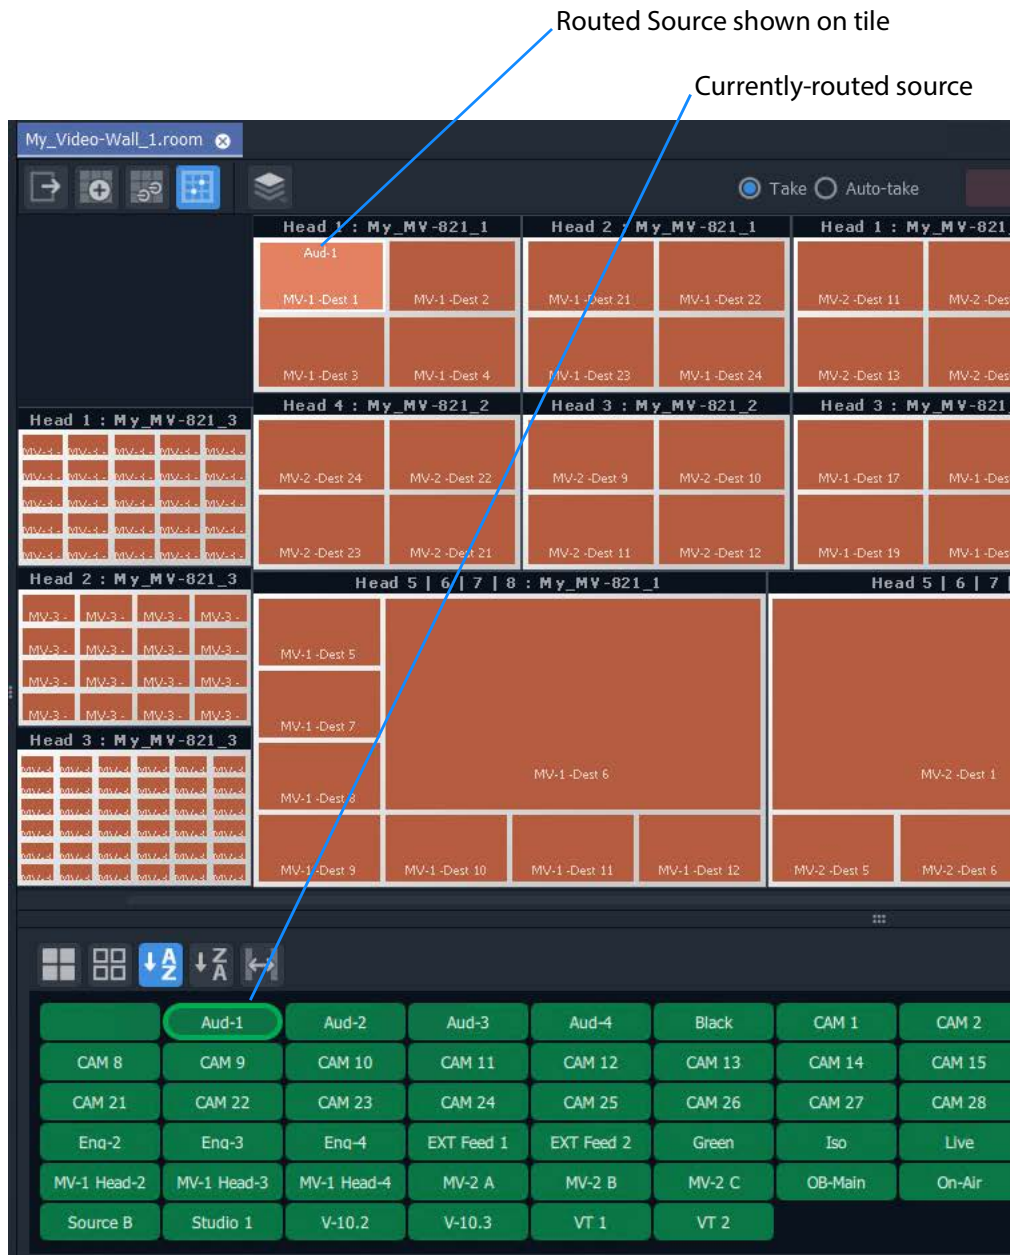

Fig. 15-84: Routed Result
- a) the selected tile position (see Figure 15-84); and also to